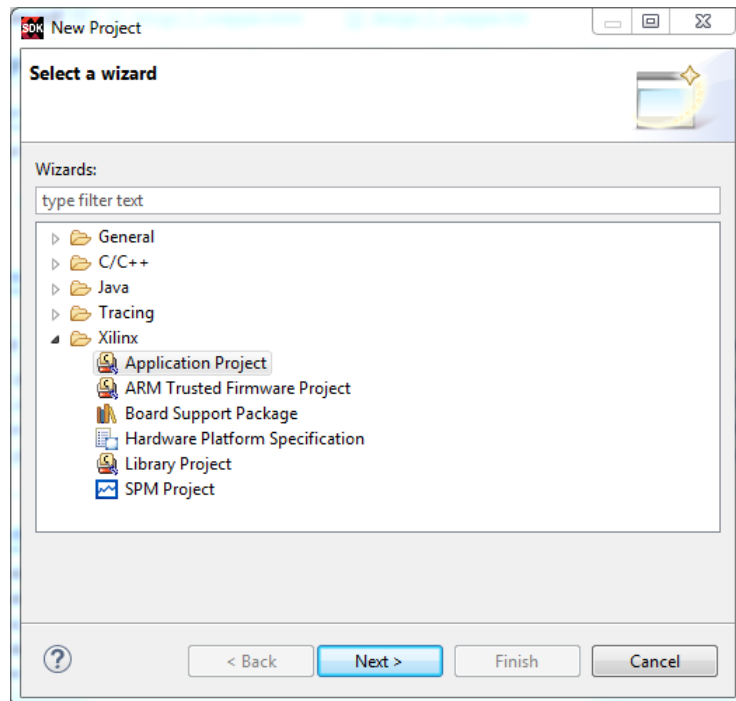

Figure 38: SDK New Project Wizard
2. In the New Project dialog box, select **Xilinx Application Project** (Figure 38).